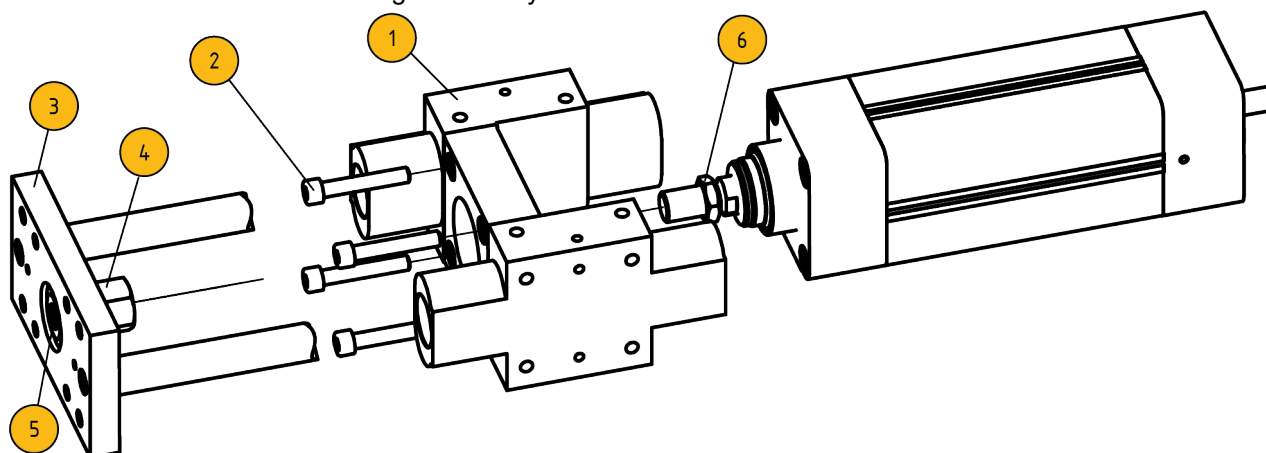

Figure 8: Mounting the rod guide
- ◆ Unwrap the rod guide and remove the transportation lock between the rod guide module ((see Figure 8 Pos.1) and the front plate (see Figure 8 Pos. 3).
- ◆ Slide the rod guide module (see Figure 8 Pos. 1) onto the centering collar of the ETH cylinder.
- ◆ Screw together the rod guide module with the screws supplied (see Figure 8 Pos. 2) and the required tightening torque. For tightening torques see chapter 2.1.2.2 screw tightening torques for the mounting of the ETH cylinder on the customer's side, option F.
- ◆ Loosen the screw (see Figure 8 Pos. 5) thus the lock nut (see Figure 8 Pos. 4) can move freely.
- ◆ Turn the lock nut on the piston rod of the ETH cylinder and lock it with the hexagon nut (see Figure 8 Pos. 6).
- ◆ Clamp the lock nut with the front panel by tightening the screw (see Figure 8 Pos. 5) with the required tightening torque. To avoid damaging the cylinder, the lock nut must be used to hold the cylinder in place. Tightening torques: ETH032 = 6,5 Nm, ETH050 = 16 Nm, ETH080 = 29 Nm.